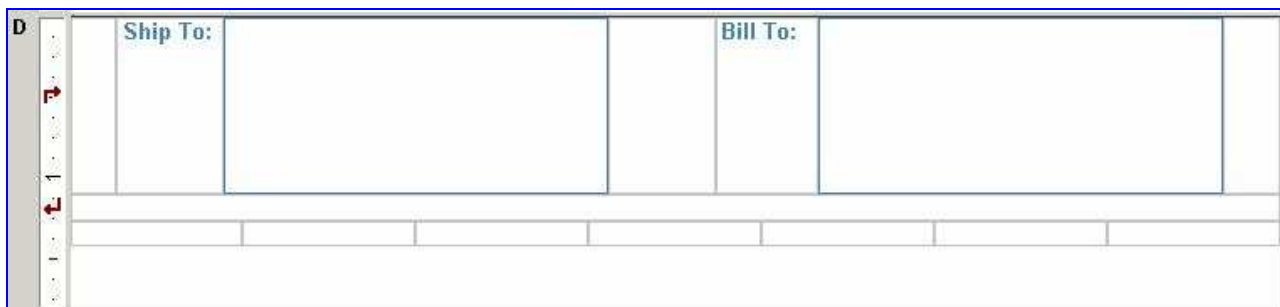

Figure 1.39. Showing the report detail section after insertion of ELS-Row, resize of the first ELS-Line and other edit operations
- Finally, resize the columns of this *ELS-Line* to look like Figure 1.39 below.